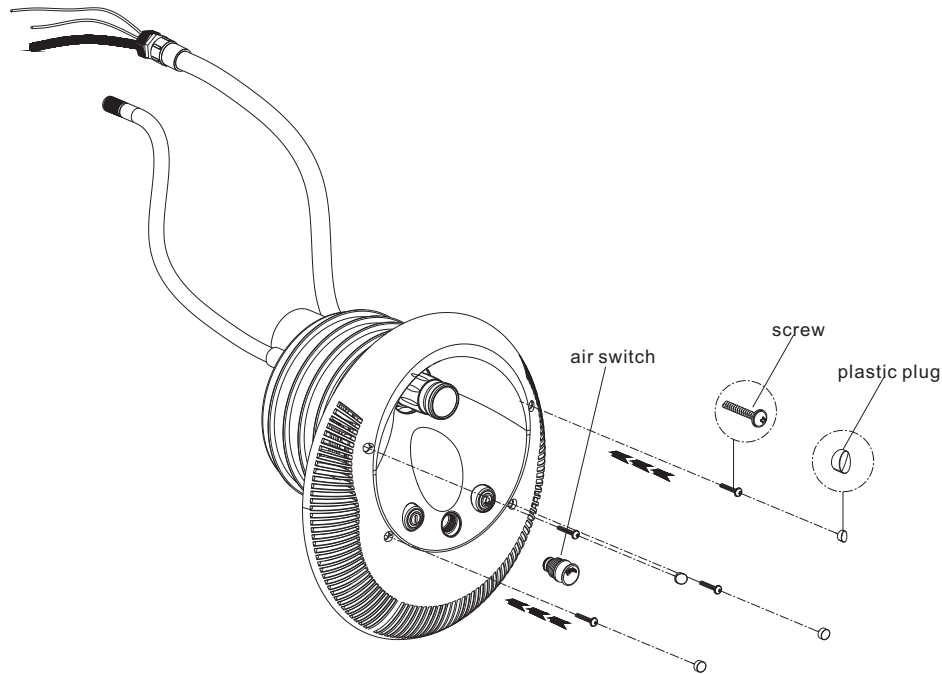

Figure 12
- 4) install the outer shell onto the support frame, fixed with 4 M5 screws, and then cork the screw hole using plastic cork. ( Figure 12)